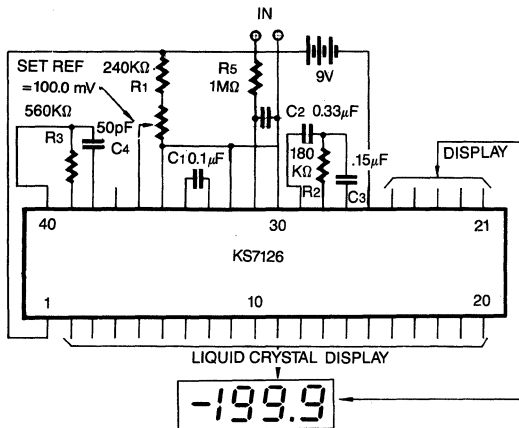

Figure 1: KS7126 Clock Frequency 16 KHz (1 reading/sec.)
- 3) Unless otherwise noted, specifications apply $T_a = 25^\circ\text{C}$, $f_{\text{CLOCK}} = 16\text{KHz}$ and are tested in the circuit of Figure 1.